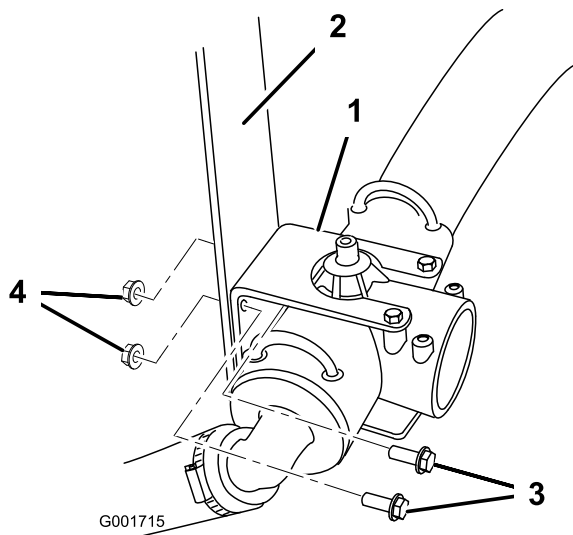

Figure 8
2. On a Multi-Pro 1200 Sprayer, disconnect the small red pressure gauge tube from the green tube fitting on top of the supply tee (Fig. 8). To disconnect, press down on the tube fitting while pulling up on the tube.
3. Remove the two bolts and two nuts securing the supply tee and supply tee mounting bracket to the vehicle (Figure 8). Retain the fasteners for later use.